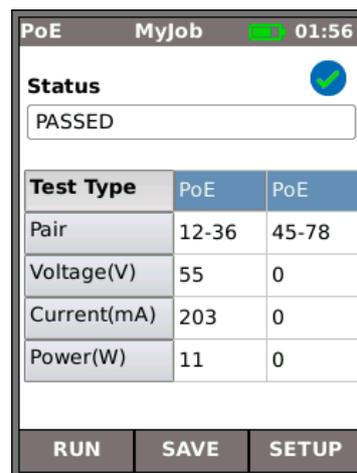

Fig 41
When the Near-End Unit is connected to a port it automatically detects PoE voltage (when present). In addition, running a PoE test will apply a resistive load and measure the power available at the connected port. SignalTEK NT identifies which pairs are carrying power, and displays the voltage (V), current (mA) and power (W). The PoE test result screen at Fig 41 shows that pair one and two, and pair three and six are carrying 11 Watts. The port tested is capable of powering devices that require upto 11 Watts.